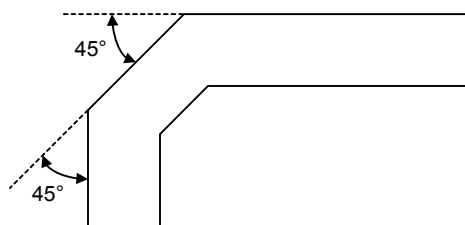

Figure 12-15. Trace Routing
- For high-speed signals, the number of corners and vias should be kept to a minimum. If a 90° bend is required, it is recommended to use two 45° bends instead. Refer to Figure 12-15.